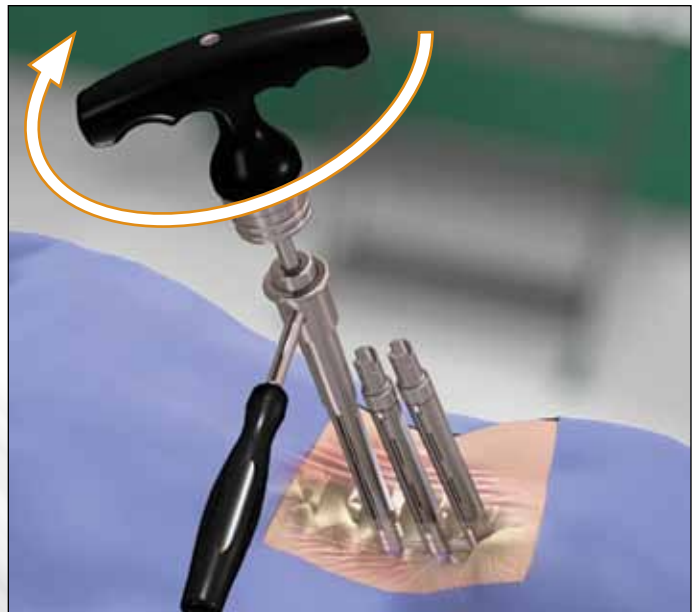

FIG. 38
- Hold the Counter Torque and rotate the Final Driver until an audible click is heard. (FIG. 38)